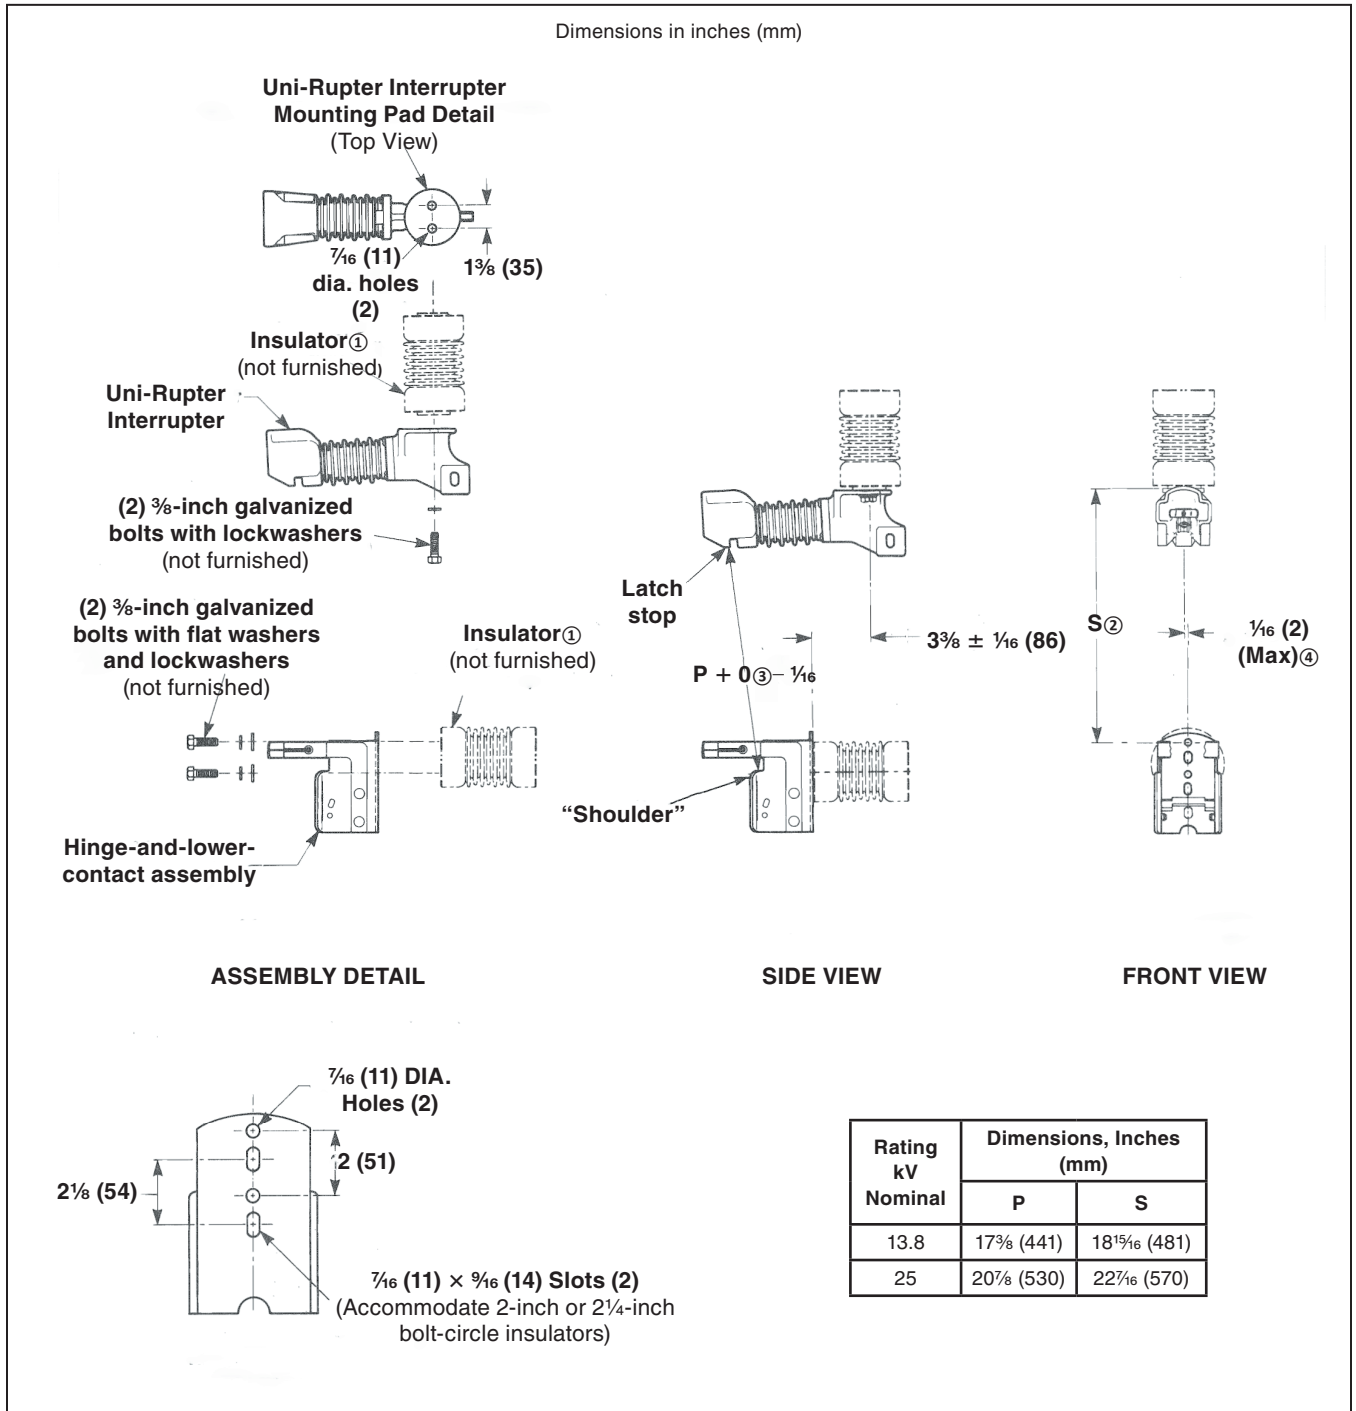
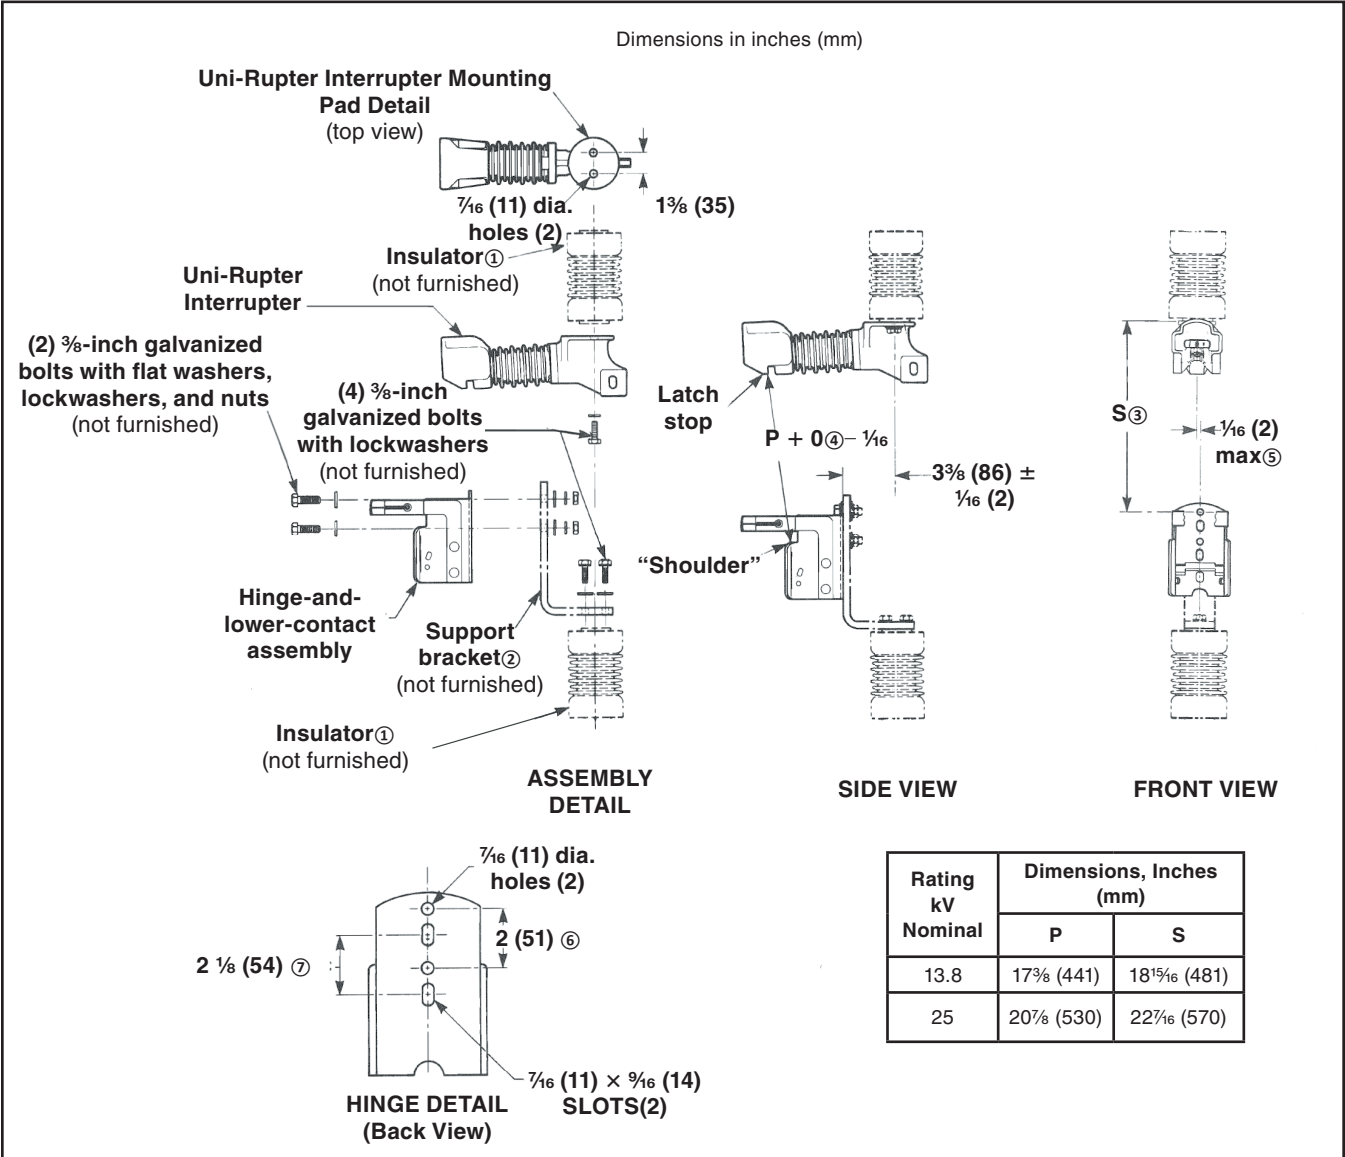

Figure 1. Mounting configuration utilizing back-supported hinge-and-lower-contact assembly.
Figure 3. Mounting configuration using bottom-supported hinge-and-lower-contact assembly.
These live parts can be mounted as shown in Figure 1 on page 9 or Figure 3 on page 11.
Back-supported hinge-and-lower-contact assembly mounting configuration (see Figure 1 on page 9):
STEP 1. Install insulators (not included with live parts) in the locations shown in Figure 1 on page 9, with the mounting bolts snug but loose enough to permit later adjustments.
STEP 2. Attach the Uni-Rupter Interrupter to the upper insulator as shown in Figure 1 on page 9, using two 3/8-inch galvanized bolts with lockwashers (not furnished). Fully tighten both Uni-Rupter Interrupter mounting bolts.
STEP 3. Attach the hinge-and-lower-contact assembly to the lower insulator as shown in Figure 1 on page 9, using two 3/8-inch galvanized bolts with lockwashers and flat washers (not furnished). Fully tighten both of the hinge-and-lower-contact assembly mounting bolts.
Note: The hinge-and-lower-contact assembly features two sets of mounting holes/slots to accommodate insulators with either 2-inch (51-mm) or 2 1/4-inch (57-mm) bolt circles (see Hinge Detail, Figure 1 on page 9). Either set of mounting holes/slots can be used, provided Dimensions "P" and "S" are maintained, as shown in Figure 1 on page 9.
STEP 4. Make sure the centerline of the Uni-Rupter Interrupter and the centerline of the hinge-and-lower-contact assembly are parallel and aligned to within 1/16-inch (1.6 mm) as shown in Figure 1 on page 9 (Front View). Move the upper insulator (with the Uni-Rupter Interrupter attached) from side to side as required to obtain proper alignment. Then, fully tighten both upper-insulator mounting bolts.
STEP 5. Accurately measure the distance from the lower edge of the latch stop on the Uni-Rupter Interrupter to the "shoulder" on the hinge-and-lower-contact assembly (Dimension "P") as shown in Figure 1 on page 9. Move the lower insulator toward or away from the Uni-Rupter Interrupter as required to bring this dimension within the specified tolerance for Dimension "P." Make sure Dimension "P" is maintained on both sides of the Uni-Rupter Interrupter and the hinge-and-lower-contact assembly and also that the Uni-Rupter Interrupter and the hinge-and-lower-contact assembly are still properly aligned as described in Step 4. Then, fully tighten both lower-insulator mounting bolts.
Bottom-supported hinge-and-lower-contact assembly mounting configuration (see Figure 3 on page 11):
STEP 1. Install insulators (not included with live parts) in the locations shown in Figure 3 on page 11, with the upper-insulator mounting bolts snug but loose enough to permit later adjustments. Fully tighten the mounting bolts securing the lower insulator to the structure.
STEP 2. Attach the Uni-Rupter Interrupter to the upper insulator, as shown in Figure 3 on page 11, using two 3/8-inch galvanized bolts with lockwashers (not furnished). Fully tighten both the Uni-Rupter Interrupter mounting bolts.
STEP 3. Attach a hinge-and-lower-contact assembly support bracket (not furnished) to the lower insulator using two 3/8-inch galvanized bolts with lockwashers, as shown in Figure 3 on page 11. Fully tighten the mounting bolts securing the support bracket to its insulator.
STEP 4. Attach the hinge-and-lower-contact assembly to the support bracket, as shown in Figure 3 on page 11, using two 3/8-inch galvanized bolts with flat washers, lockwashers, and nuts (not furnished). The mounting bolts securing the hinge-and-lower-contact assembly to the support bracket should be snug but loose enough to permit later adjustments.
Note: The hinge-and-lower-contact assembly features two sets of mounting holes/slots (see Hinge Detail, Figure 3 on page 11). Either set of mounting holes/slots can be used provided Dimensions “P” and “S” are maintained as shown in Figure 3 on page 11.
STEP 5. Make sure the centerline of the Uni-Rupter Interrupter and the centerline of the hinge-and-lower-contact assembly are parallel and aligned to within 1/16-inch (2 mm) as shown in Figure 3 on page 11 (Front View). Move the upper insulator (with the Uni-Rupter Interrupter attached) from side to side as required to obtain proper alignment. Then, fully tighten both upper-insulator mounting bolts.
STEP 6. Accurately measure the distance from the lower edge of the latch stop on the Uni-Rupter Interrupter to the “shoulder” on the hinge-and-lower-contact assembly (Dimension “P”) as shown in Figure 3 on page 11. Move the hinge-and-lower-contact assembly toward or away from the Uni-Rupter Interrupter as required to bring this dimension within the specified tolerance for Dimension “P.” Make sure Dimension “P” is maintained on both sides of the Uni-Rupter Interrupter and the hinge-and-lower-contact assembly and that the Uni-Rupter Interrupter and the hinge-and-lower-contact assembly still properly aligned as described in Step 5. Then, fully tighten both hinge-and-lower-contact assembly mounting bolts.